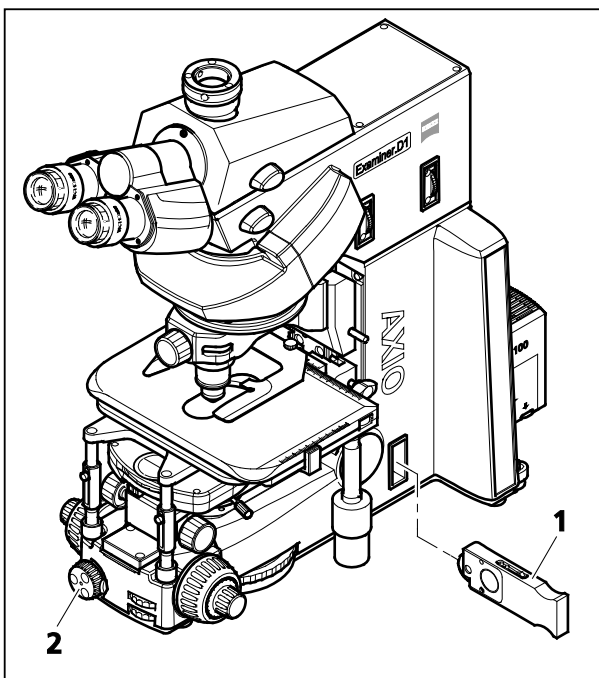

Figure 4-7 Inserting a segmented stop slider
- Insert the segmented stop slider (Figure 4-7/1) into the lower microscope part until it locks into place.
- Use the control wheel (Figure 4-7/2) at the stand to rotate the slot segment of the stop into the desired position.